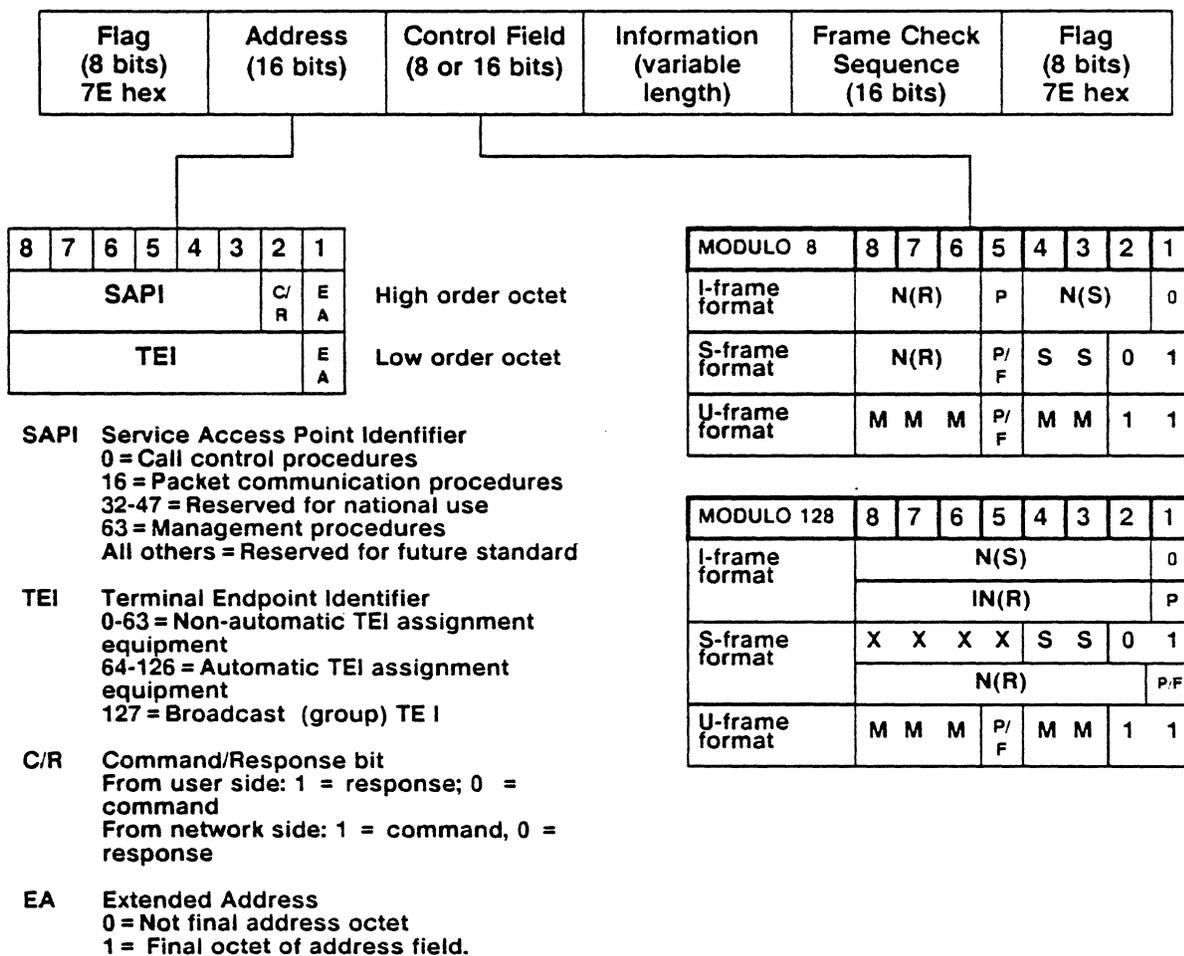

Figure 4.5-1: LAPD Frame Format
**LAPD Frame** The structure of a LAPD frame is slightly different from a standard ADDCP frame. Specifically, the LAPD address field has several added bits, as shown in Figure 4.5-1. *The number in parentheses ( ) indicates the width of the field in bits.*